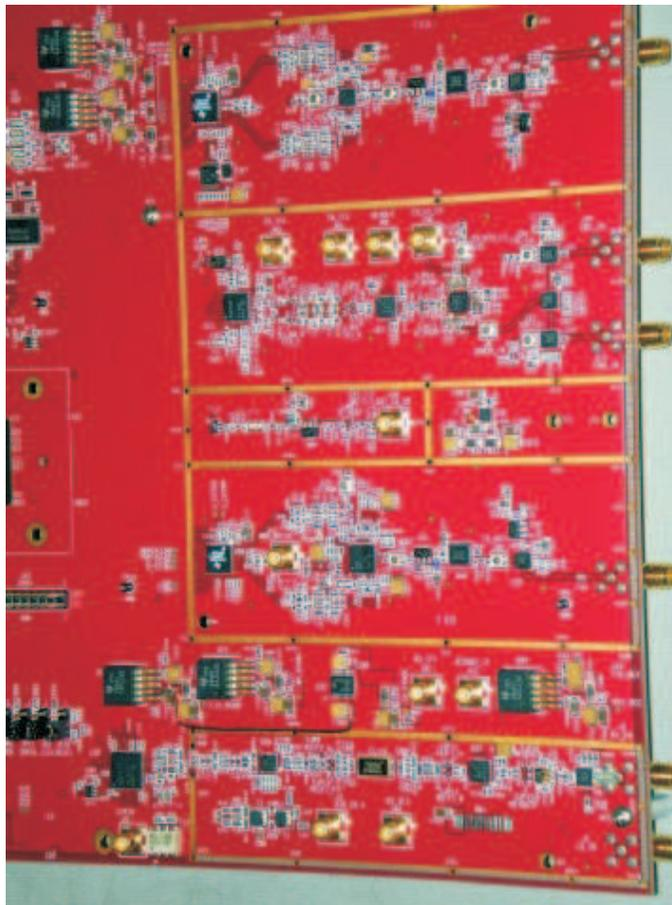

Figure 3. GC6016 EVM TX, FB and RX SMA's
The two Transmit (TX) outputs are located at SMA connectors J16 and J19. The shared feedback (FB) inputs are located at SMA connectors J39 and J23. The RX input is located at SMA J2. The RX LO input source is located at J1. All of these SMA's are on the right edge of the GC6016 EVM as shown in Figure 3.